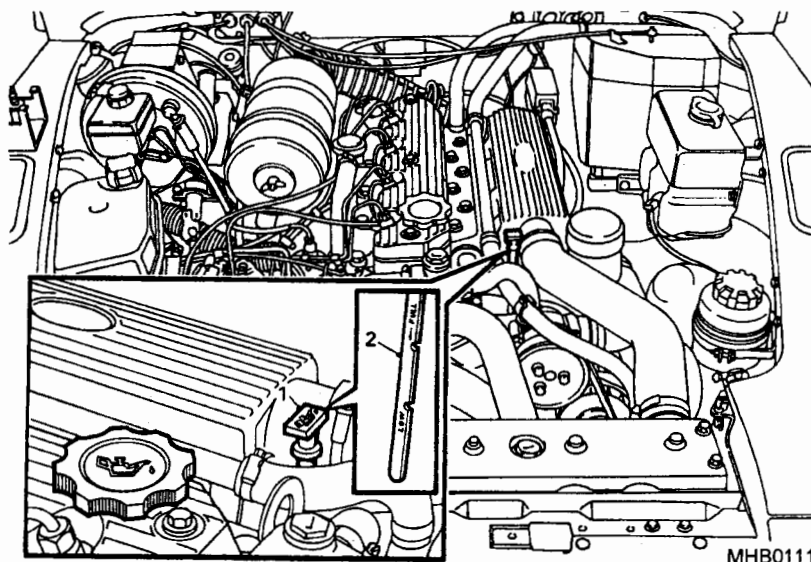

Fig 24 Checking the engine oil level
- 31.3 Withdraw the dipstick, (Fig 24 (1)) wipe clean and re-insert into its tube, ensuring it is pushed fully home.